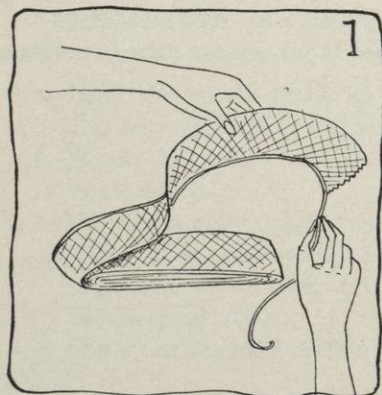

FIG. 1.
- a. Draw the cord at one edge of the hair braid to make it slightly circular (see Figure 1).